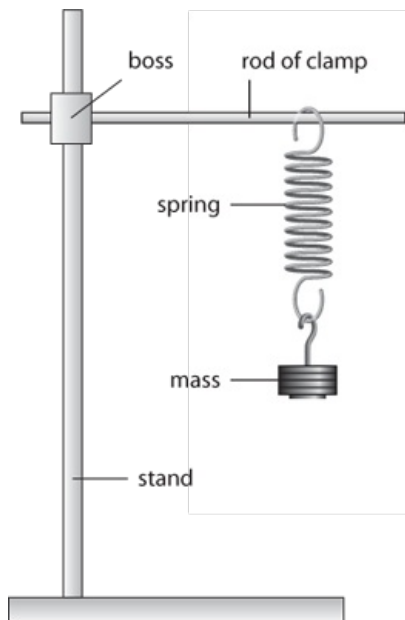

Figure 5.3: Spring with mass attached suspended from rod.
- 2 Hang the spring from the rod of the clamp and then hang the mass from the bottom of the spring, as shown in Figure 5.3.